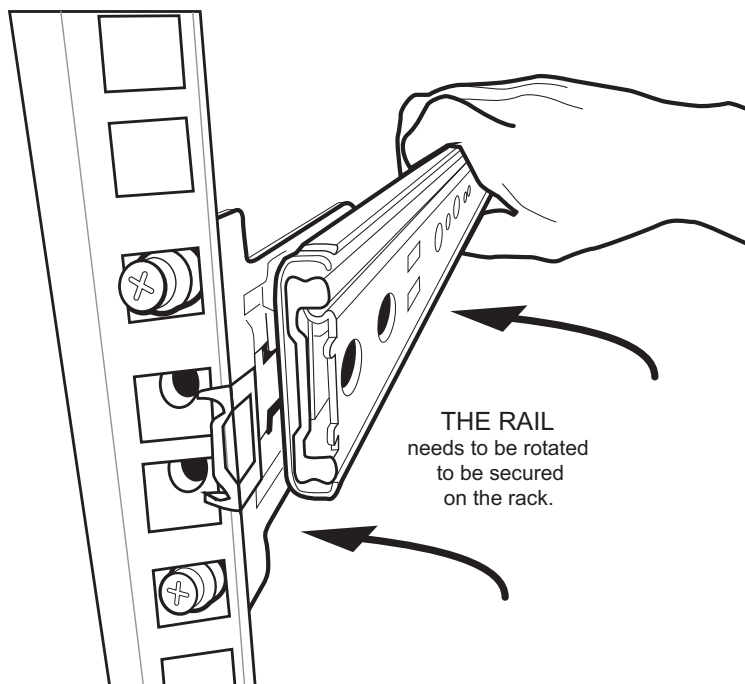

Figure 2.1 Securing the Slider Rail to the Front of the Equipment Rack
- 1a. Attach the front end of the slider rail to the front edge of the equipment rack. See figure 2.1 on page 14.